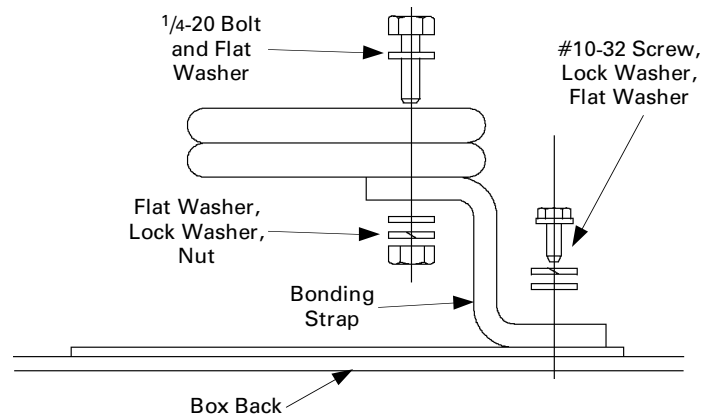

Figure 3. Attaching a bonding strap.
3. When a bonding strap is required for service entrance applications, install the bonding strap to the underside of the bus with the 1/4-20 bolt, nut, lock washer, and flat washers supplied, as shown in Figure 3. Use a 1 1/4" bolt for up to 600 A applications or a 1 5/8" bolt for 800 A and 1200 A applications. Tighten the bolt to 40–50 in-lbs. Secure the opposite end of the bonding strap to the neutral mounting base and box back with the #10-32 self-tapping screw and lock washer supplied, tightened to 27–32 in-lbs.